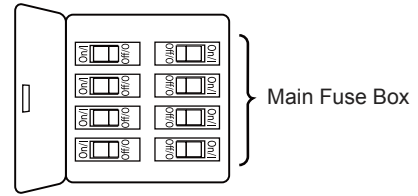

Figure 1
To avoid possible fire or shock, be sure electricity is turned off at the main fuse box before hanging. (Figure 1)
- 1. To set the code on receiver unit, slide dip switches to the same positions as set on the remote control. (Figure 1)